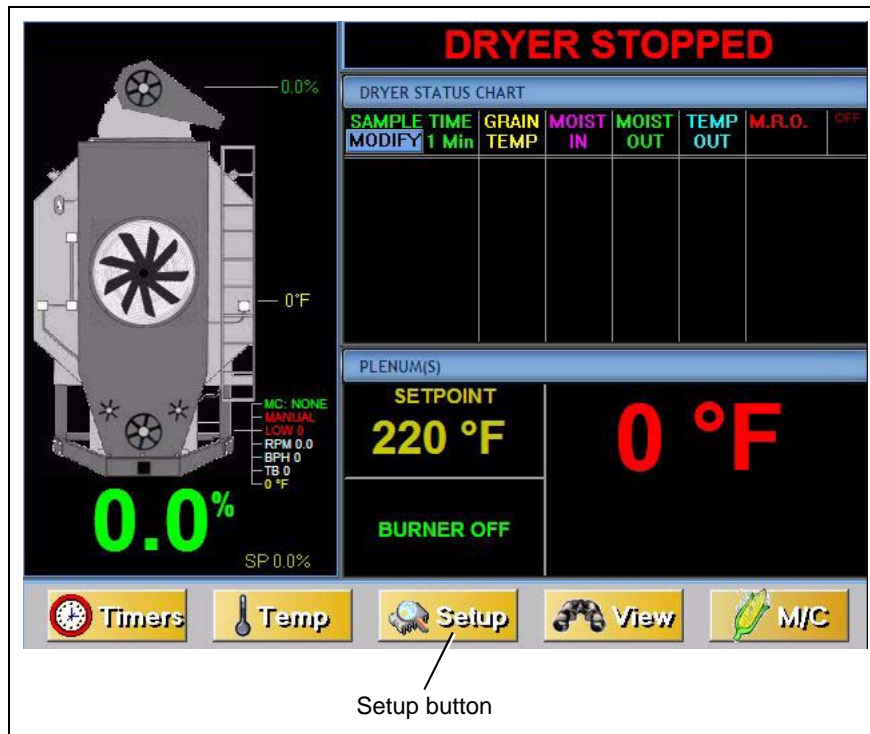

Figure 3B Main Operation Screen Setup Button
- Go to the Main Operation Screen on the vision touch control and touch the SETUP button. (See Figure 3B.)